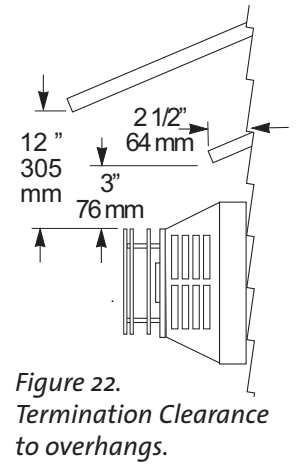

Figure 22. Termination Clearance to overhangs.
- The horizontal termination cap must maintain a 3" clearance to any overhead combustible projections 2 1/2" or less. It must also maintain 12" clearance from projections exceeding 2 1/2". See fig. 22.